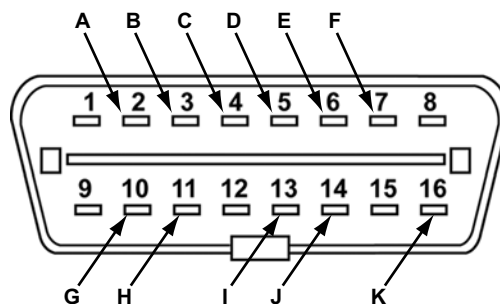

Figure B-1 Data link connector
- Test the terminal voltages using a voltmeter. Figure B-1 maps the data link connector. Refer to Table B-1 for corresponding voltages.